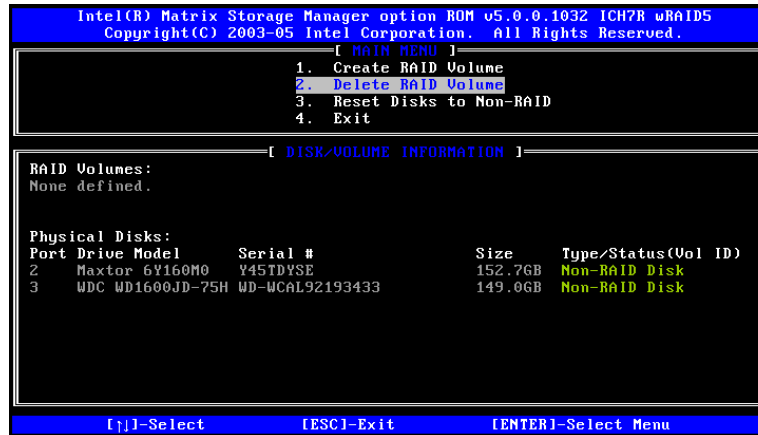

Figure E-11: Non-RAID Disks
Step 4: Non-RAID Disks. After deleting the RAID volume, the disks belonging to the volume will be shown as non-RAID disks. See Figure E-11.